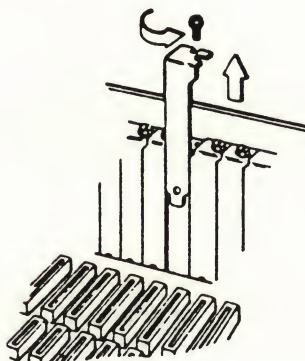

Figure 3-12 Removing a Slot Cover
4. Locate a vacant expansion slot and remove the slot cover as shown in Figure 3-12. Save the screw that you remove.